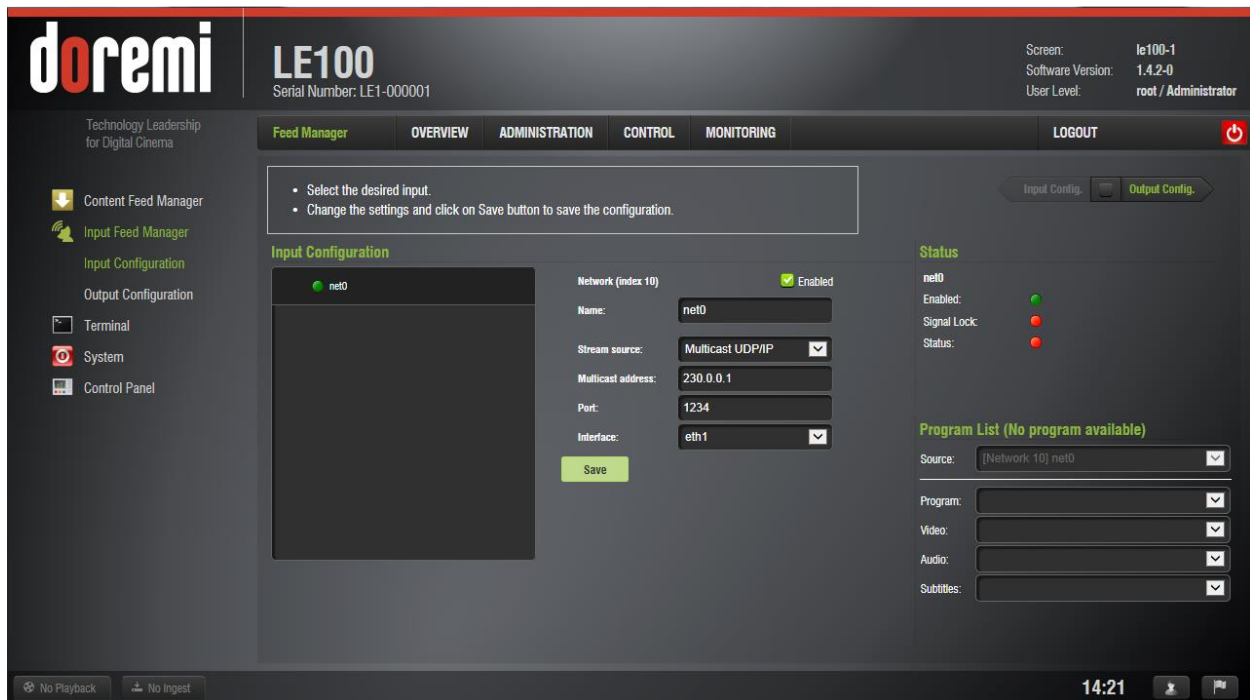

Figure 10: Input Configuration – Network
- Then click on the Save button (see Figure 10).